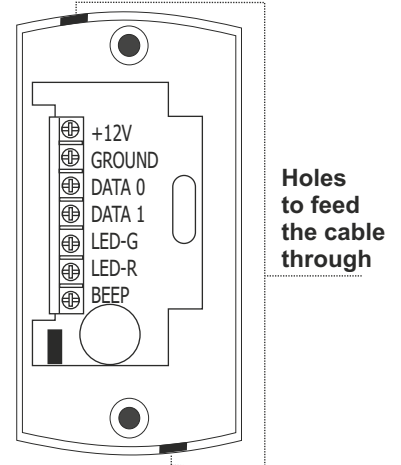

Figure. 3
- Remove the thin tab in the reader case, from the side where the cable must come out (Fig. 3), and